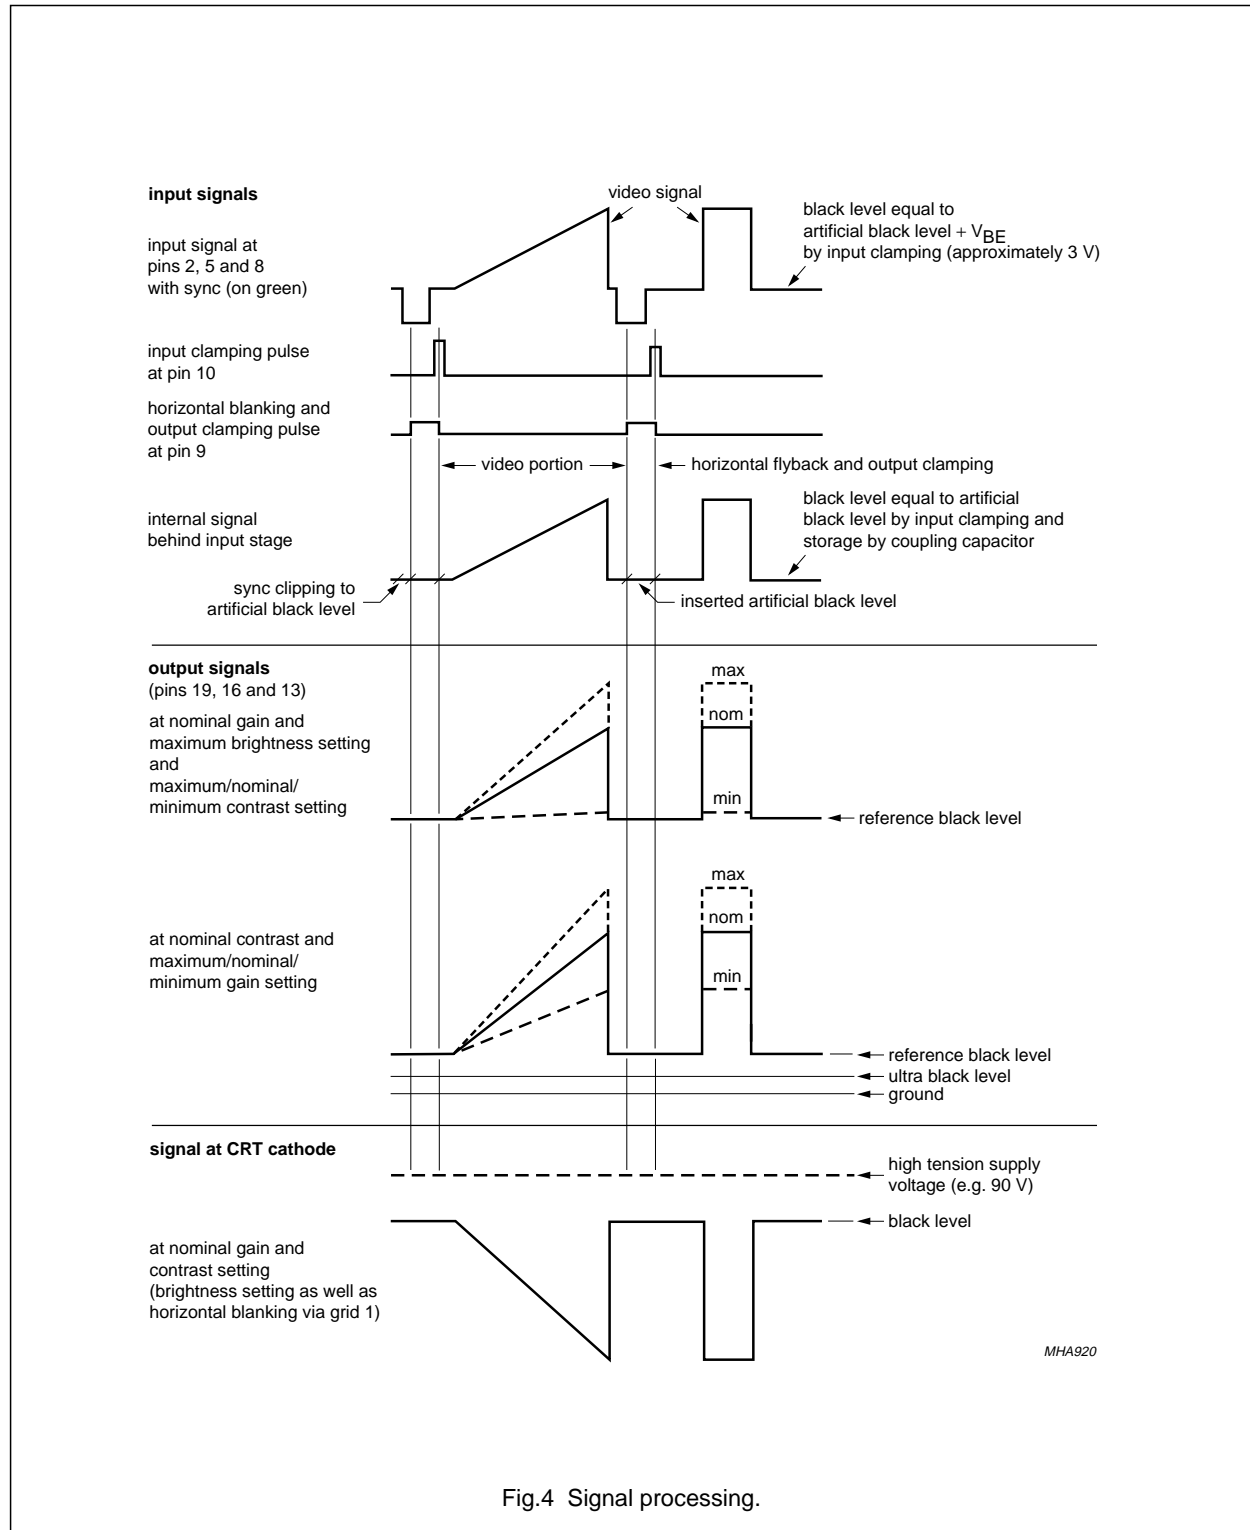

Fig.4 Signal processing.
- h) Signal processing see Fig.4.